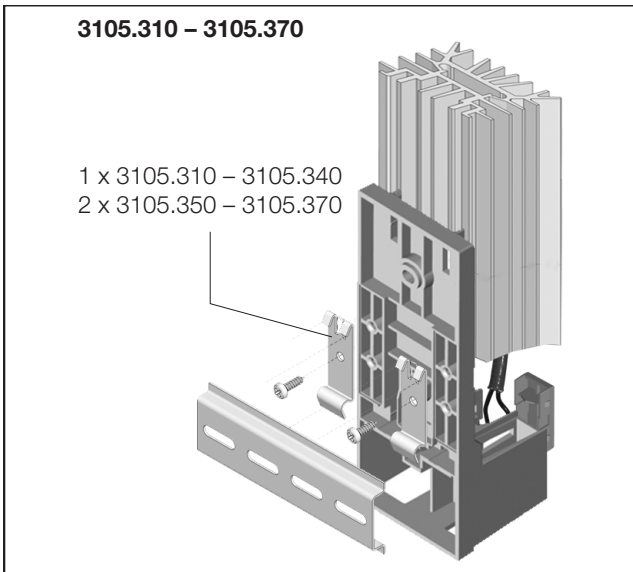

Fig. 2: Snap-type fastening onto a 35 mm support rail EN 60715
1	Assembly parts (see fig. 2)
Assembly parts (see fig. 2)
1. Snap-type fastening onto a 35 mm support rail EN 60715 (fig. 2).